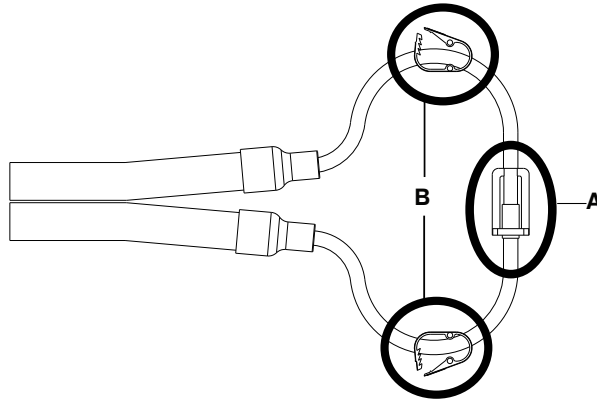

Figure 54: Clik-Tite hose ends are closed and clamps are open
- b. If you have **Clik-Tite** hoses, make sure that the connector ends are connected and closed (A), and clamps are open (B). Complete this for all three hoses. Figure 54 on page 71